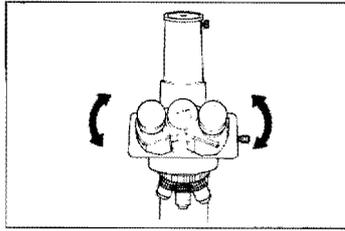

Fig.3-13
- 13) Adjust the interpupillary distance (Fig. 3-13). (See p. 20, Manipulation of Each Element-5).)